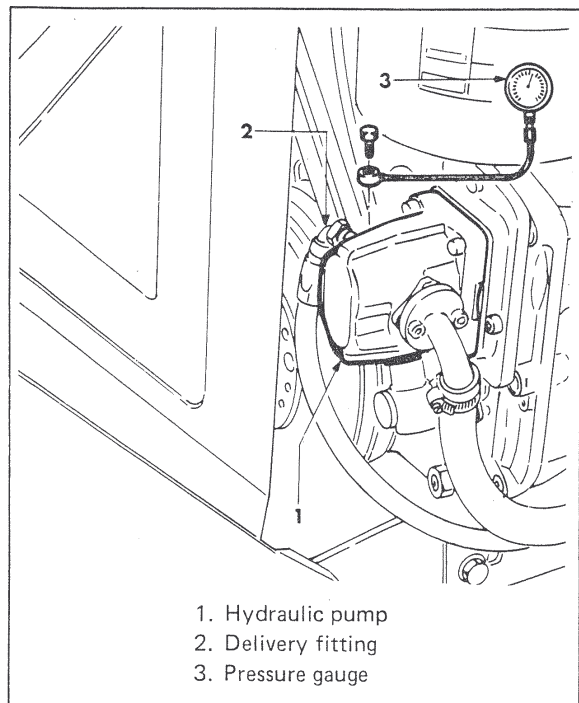

Figure 32. Installation of pressure gauge in the hydraulic pump delivery
- Install a pressure gauge with 250 kg/sq.cm end-of-scale (minimum) in the hydraulic pump delivery fitting (see fig. 32).
Location of hydraulic pump on engine body may be different from that indicated in fig. 32. Location may vary according to the engine installed on tractor.